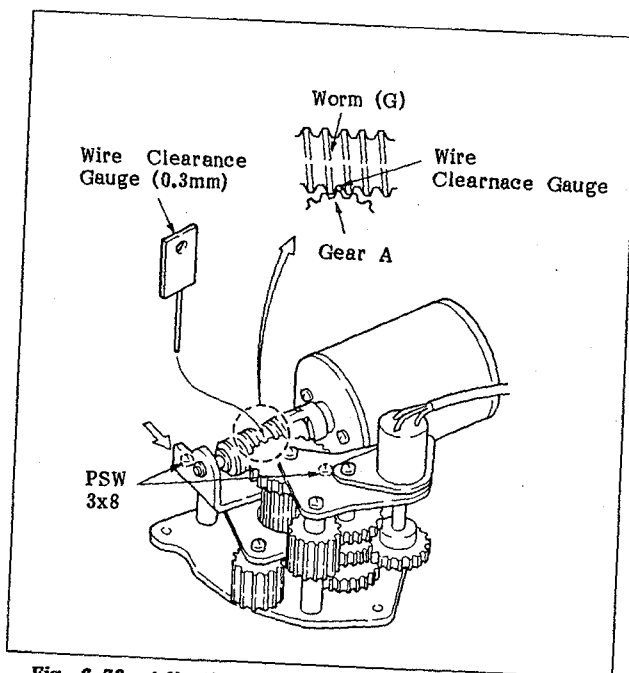

Fig. 6-73 Adjusting the Position of the Threading Motor Assembly
6. Insert the 0.3 mm diameter wire clearance gauge between gear A and the worm gear as shown in Figure 6-73, and then tighten the two screws (PSW3 x8) firmly while pushing the threading motor assembly in the direction of the arrow. Check that the 0.5 mm diameter wire clearance gauge cannot be inserted in that clearance.